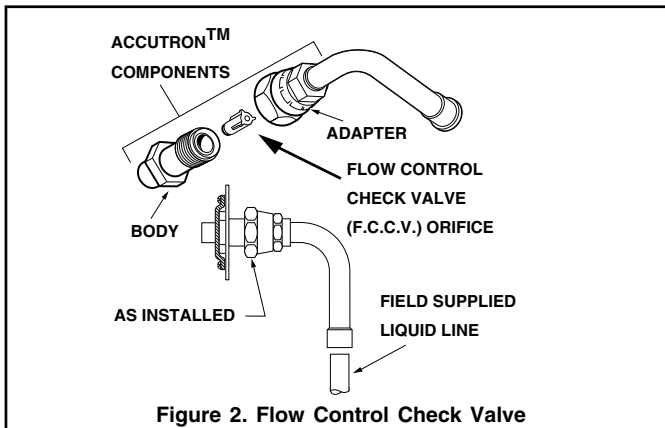

Figure 2. Flow Control Check Valve
1. Disassemble Accutron™ assembly by turning adapter hex nut counterclockwise. (See Figure 2).
3. Insert properly sized orifice into the Accutron™ body with rounded "bullet" nose toward the indoor unit. (See Figure 2). Ensure the orifice remains inserted in body when reconnecting mating adapter removed in item 1.
The indoor blower is downstream of the evaporator coil which creates a negative pressure at the condensate drain connections during operation. The condensate drain connections in front of the indoor coil are 3/4" NPT. The lower connection is the primary drain. See Figure 2.